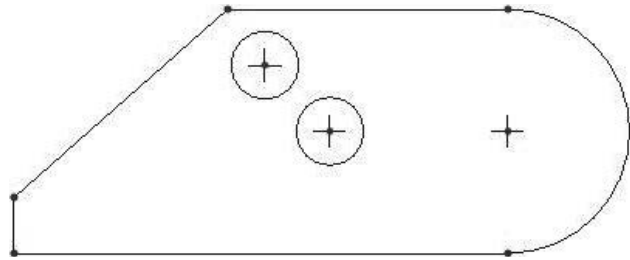

Figure 3-21 Delete Lines
Step 7: Use  to erase the line on the right end of the original figure and the left half of the circle. See Figure 3-21.